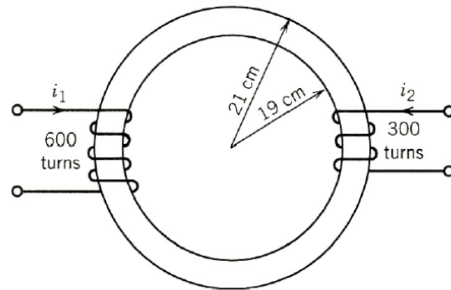

FIGURE P1.4
- 1.4** Two coils are wound on a toroidal core as shown in Fig. P1.4. The core is made of silicon sheet steel and has a square cross section. The coil currents are $i_1 = 0.28$ A and $i_2 = 0.56$ A.